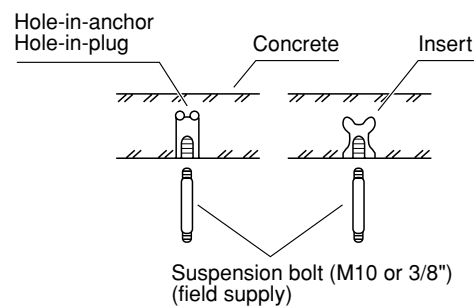

Fig. 3-20
- (3) Depending on the ceiling type:
- Insert suspension bolts as shown in Fig. 3-20.